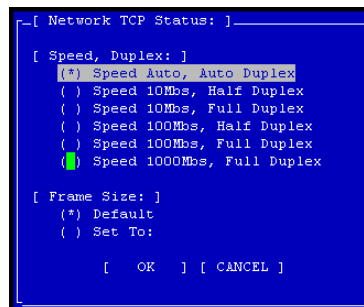

Figure 210. Setting the Speed, Duplex, and Frame Size
2. Tab to select the network interface for which you want to set the TCP speed and duplex and press Enter. The Network TCP Status window opens, shown in Figure 210.